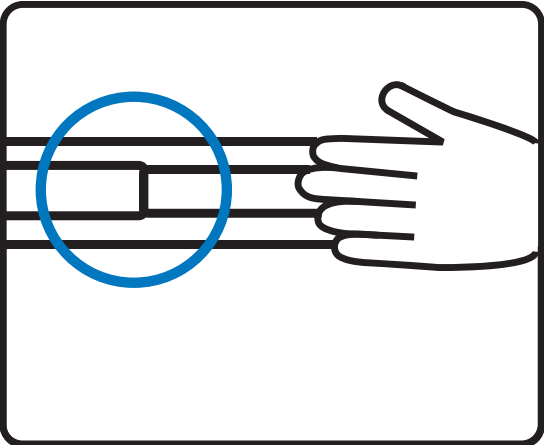

Figure 16.
- Push the LCD drawer into the rack. (shown in **Figure 16**).